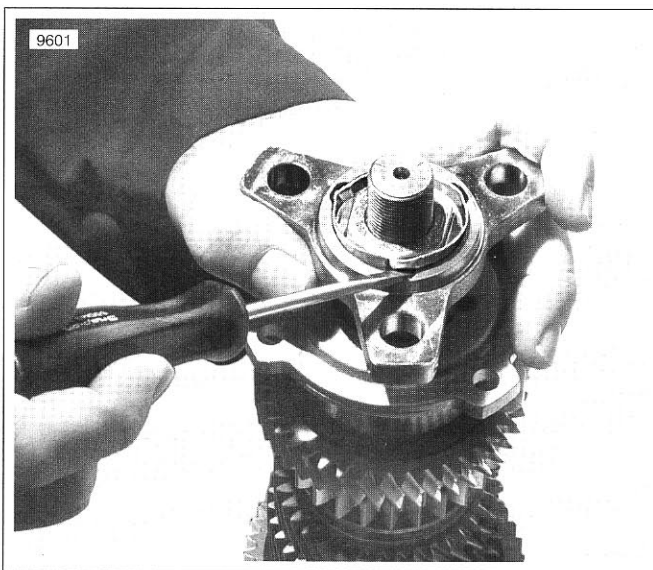

Figure 7-1. Output Shaft Lock Ring
1. See Figure 7-1. Remove lock ring from output flange nut.